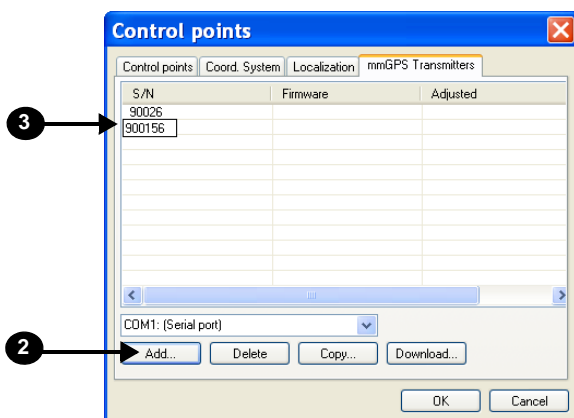

Figure 2-32. Add New Transmitter
3. Enter the serial number of the new transmitter and press **Enter** (Figure 2-32 on page 2-29).